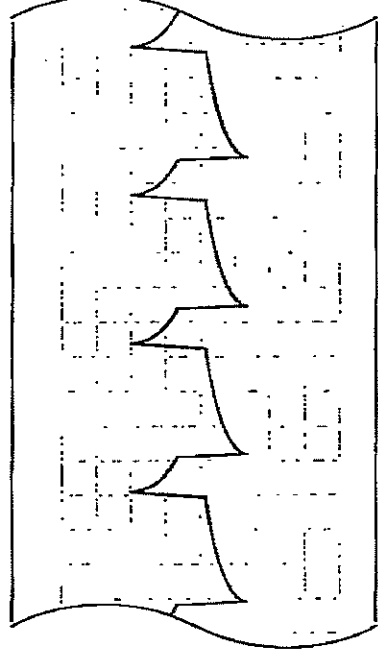

Figure 6-1 Calibration signal at monitor frequency response
- 15** Press RECORD. Recorder should run and trace should appear within one second. Press rear panel CAL button several times. Calibration signal should appear on scope and be recorded on ECG paper approximately eight seconds later. Signal recorded should match Figure 6-1 when monitor frequency response is selected on SETUP menu.